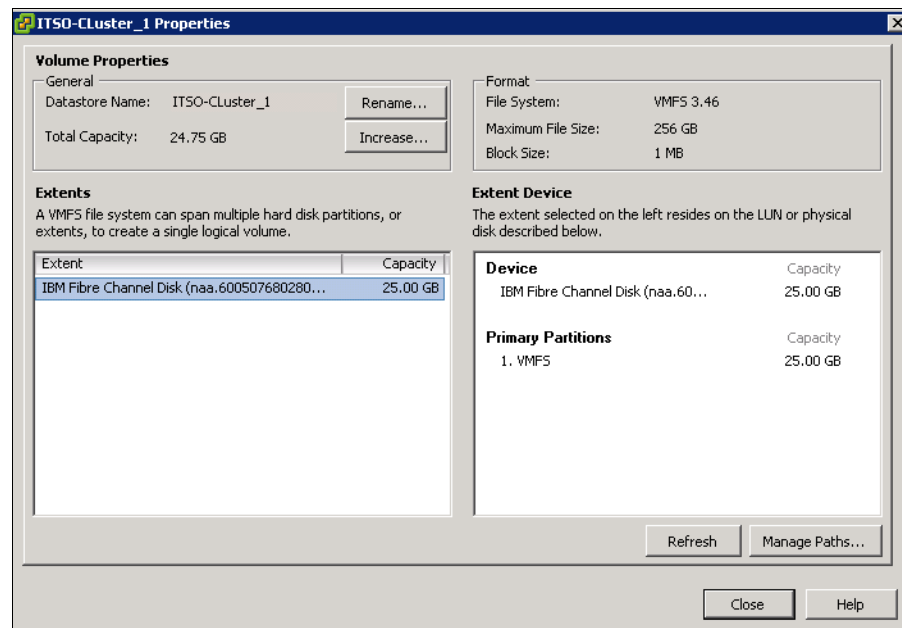

Figure 12-43 Data store properties
7. Highlight the new data store and click **Properties** to see the details of it (Figure 12-43).